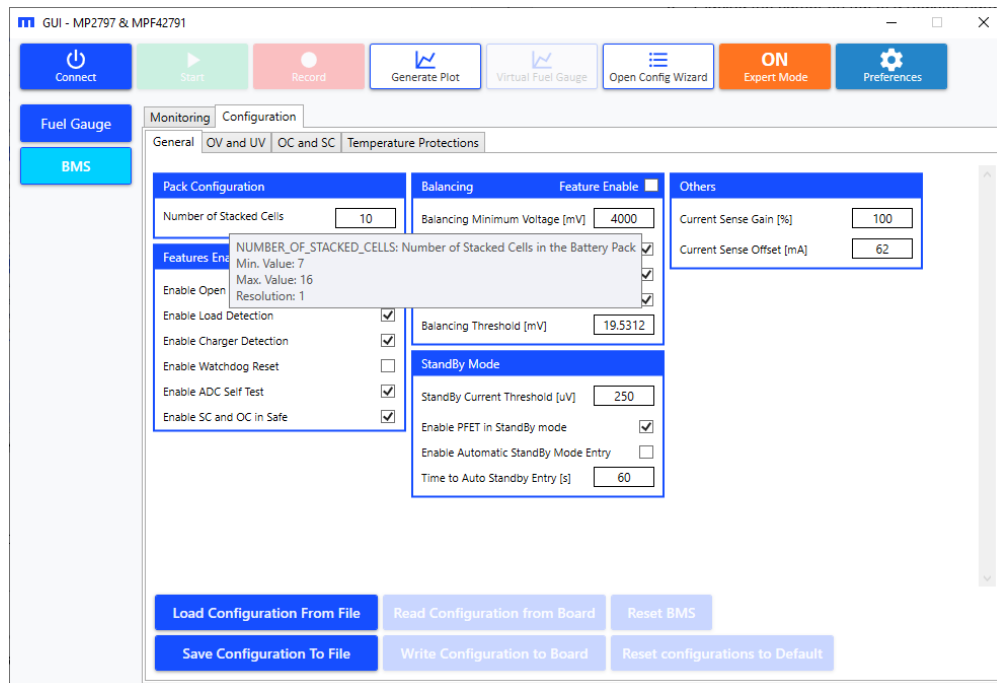

Figure 44: BMS Configurations (Register Details)
3. Place the cursor on top of the register name to display that register's information of that register (see Figure 44).